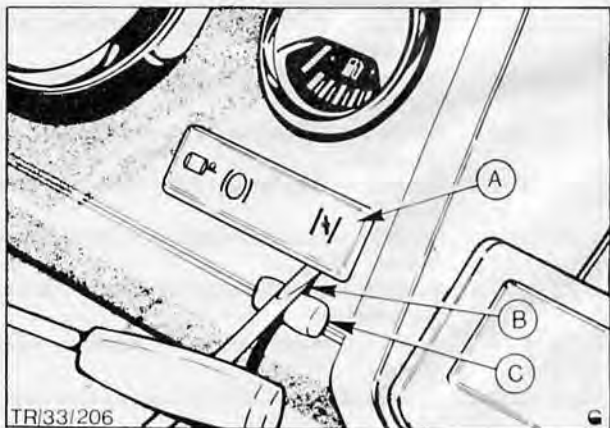

Fig. 9. Removing warning lamp panel
3. Using a small electrical screwdriver, pivoting on protective material, prise warning light panel from its bezel location, Fig. 9.